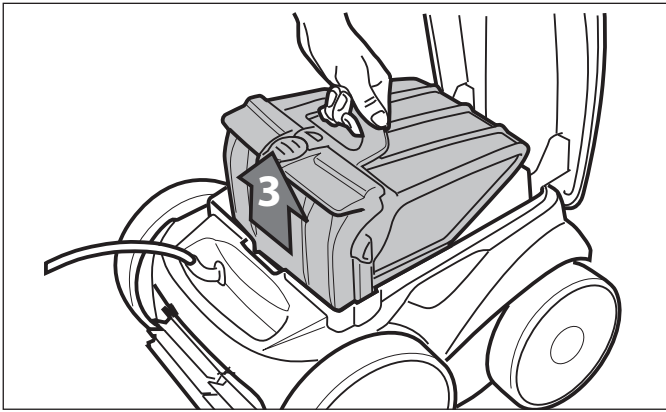

Figure 28. Remove Filter Canister Assembly
6. Remove the filter canister assembly from the body (3), as shown in Figure 28.